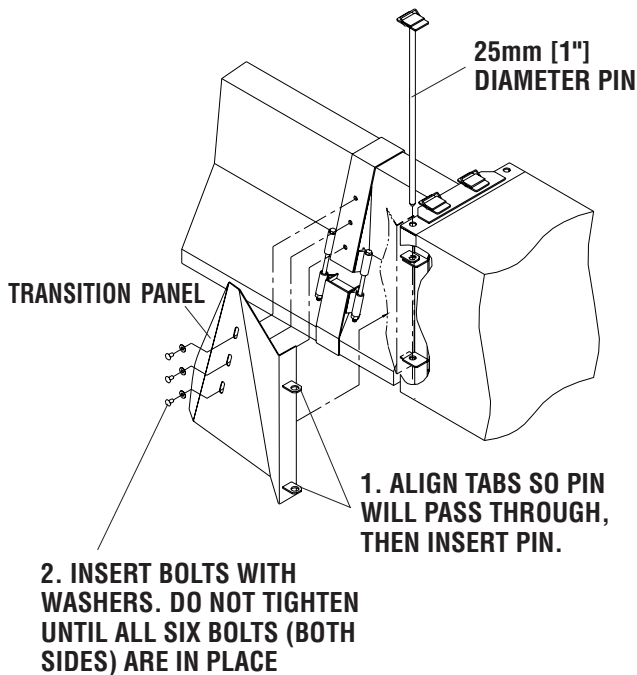

Figure 6
Step 6: Transition Panel Installation (see Figure 6)